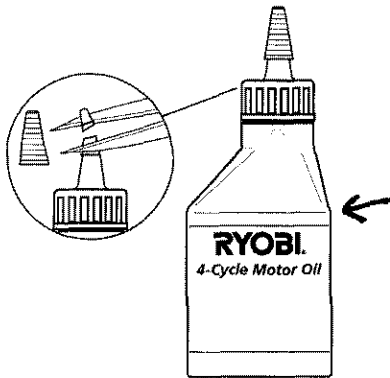

Fig. 1
Your unit is supplied with one 3.4 fluid oz. (100 ml.) bottle of SAE 30 SF, SG, SH oil (Fig. 1).
1. Open the bottle of oil (Fig. 1).